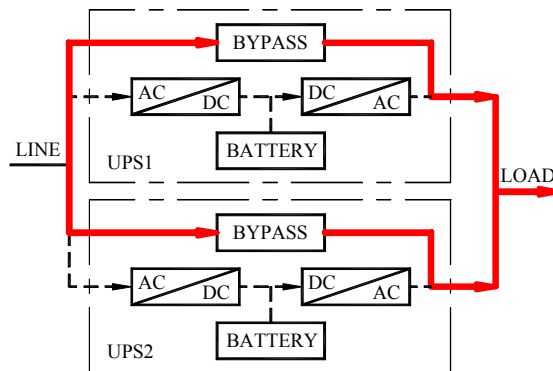

Figure 2-12 Working Mode in case of System Overload
3. Working mode in case of system overload (real lines refer to UPS's power passage), refer to figure 2-12